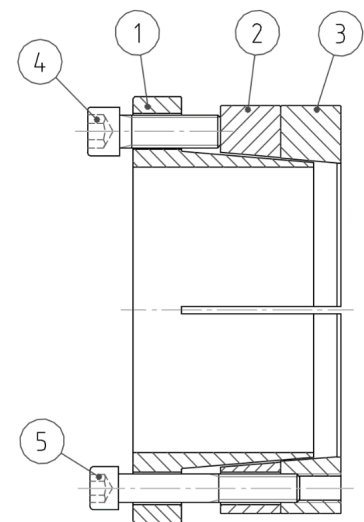

Fig. 1
2. For ease of installation, locking rings shall be disengaged (fig. 1). Loosen all screws by two/three turns; then transfer and hand-tighten at least two screws item [4] (larger size) into the push-off threaded holes in the inner ring item [1].